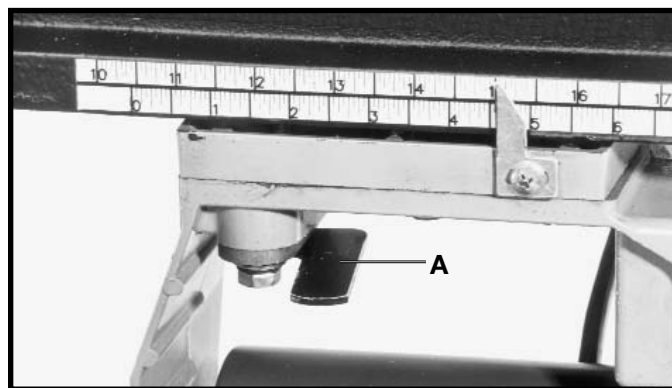

Fig. 71
Yoke index lever (A) Fig. 71, activates a positive stop which positions the cutting-head in the cross-cut or rip position. To rotate the cutting-head, release yoke clamp handle, press up or down on yoke index lever (A), releasing the positive stop, and rotate the cutting-head to the #1 in-rip or #2 out-rip or #3 cross-cut positions as desired. Release the yoke index lever (A) Fig. 71, and the cutting-head will automatically index at each of the three positions above.